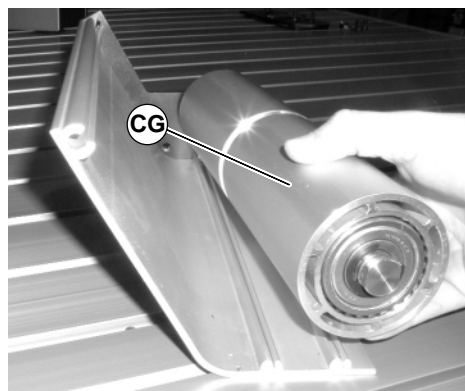

Figure 71
5. Slide the idler pulley assembly (CG of Figure 71) out of the idler guide side plate on the opposite side.